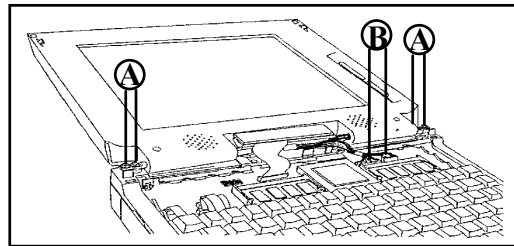

FIGURE 6-1
2. TO SEPARATE THE LCD MODULE FROM THE CHASSIS, REMOVE THE FOUR SCREWS (FIGURE 6-1 A) AND UNPLUG THE TWO LCD CABLES (FIGURE 6-1 B).